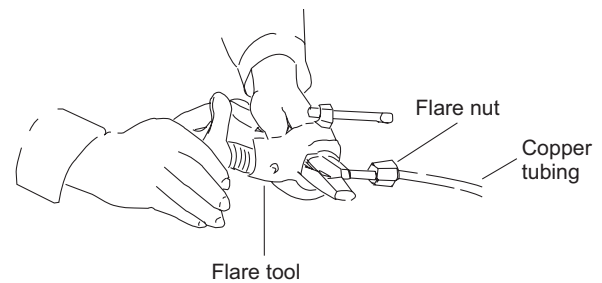

Fig. 1-16
- (3) Remove the flare nut from the unit and be sure to mount it on the copper tube.
- (4) Make a flare at the end of the copper tube with a flare tool. (Fig. 1-16)